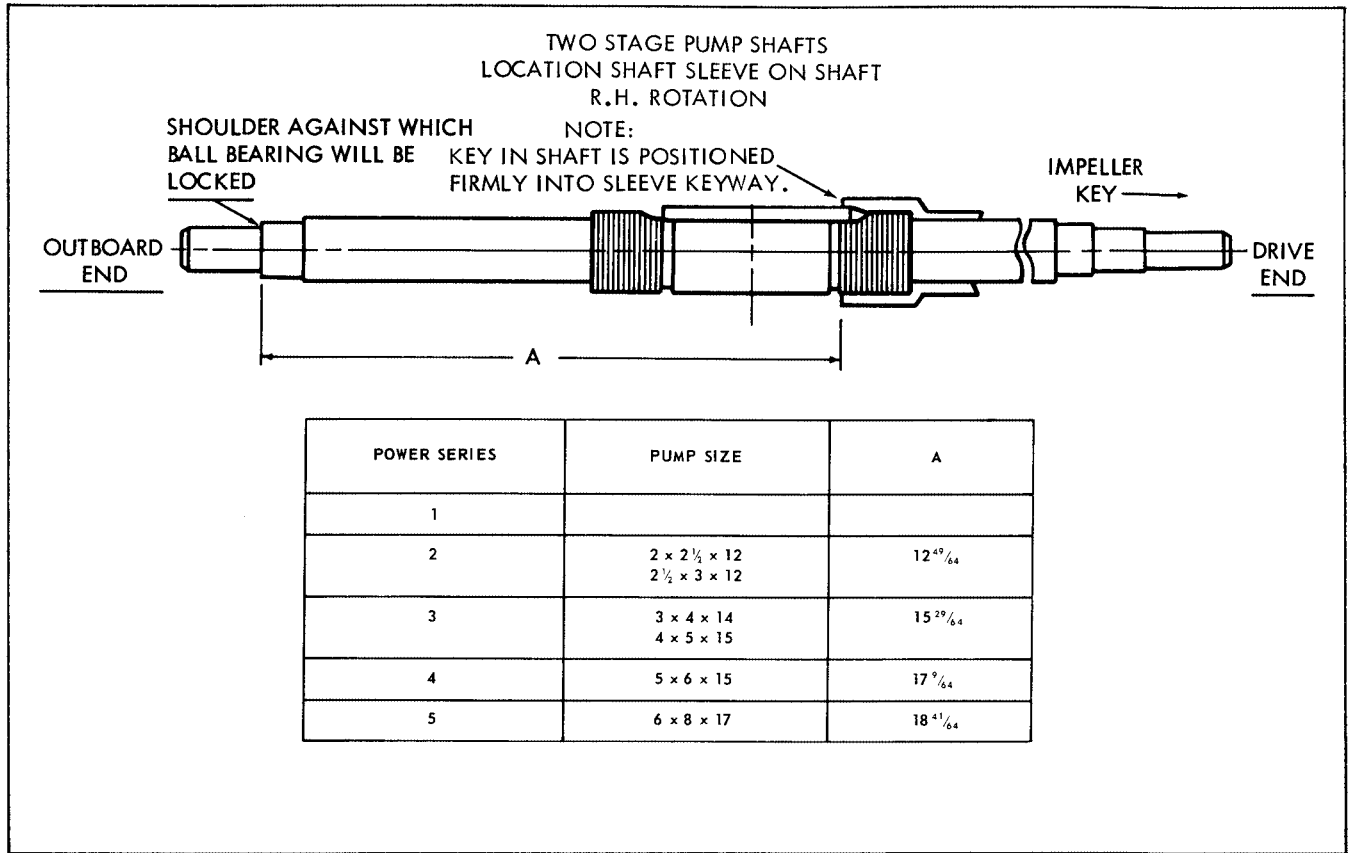

Figure 2
2. On right hand unit, thread inboard sleeve (65) onto shaft (71) distance "A" (refer to Figure 2). On left hand unit,